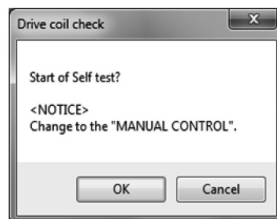

Fig.107
- ③ Click the "OK" button to display a message box (Fig. 107).